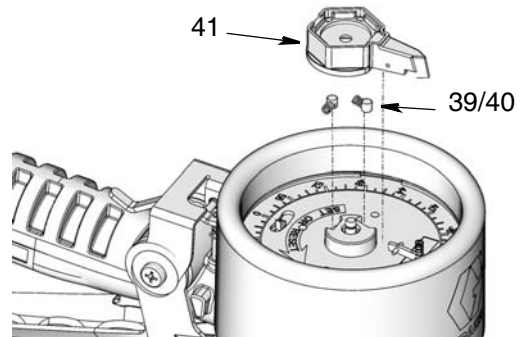

FIG. 27
3. Remove the needle pointer (41), springs (39) and pins (40) (FIG. 27).